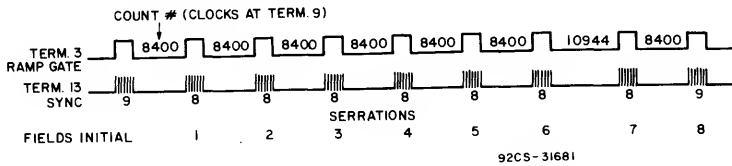

Fig. 8 - Mode recognition field count test (applies to test referenced to Note 22).
- This series of tests checks the mode recognition circuit. The first test after initialization applies 9 serrations at the sync input terminal. The IC should go to the synchronous count ratio of 8400. During the next seven fields only 8 serrations are applied. The CA3157 should maintain the synchronous count ratio of 8400 for the first six fields. At the seventh field the CA3157 should go to default count of 10944. The test concludes with a 9 serration input. The CA3157 should revert to a synchronous count of 8400 (See Fig. 8)